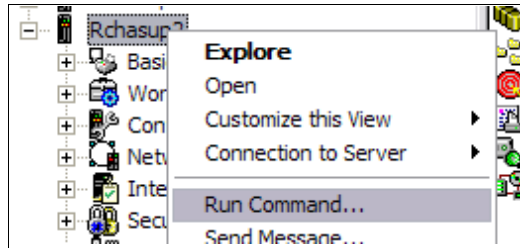

Figure 3-26 Issuing the run command through Navigator
1. Right-click the system and select **Run Command**, as shown in Figure 3-26.